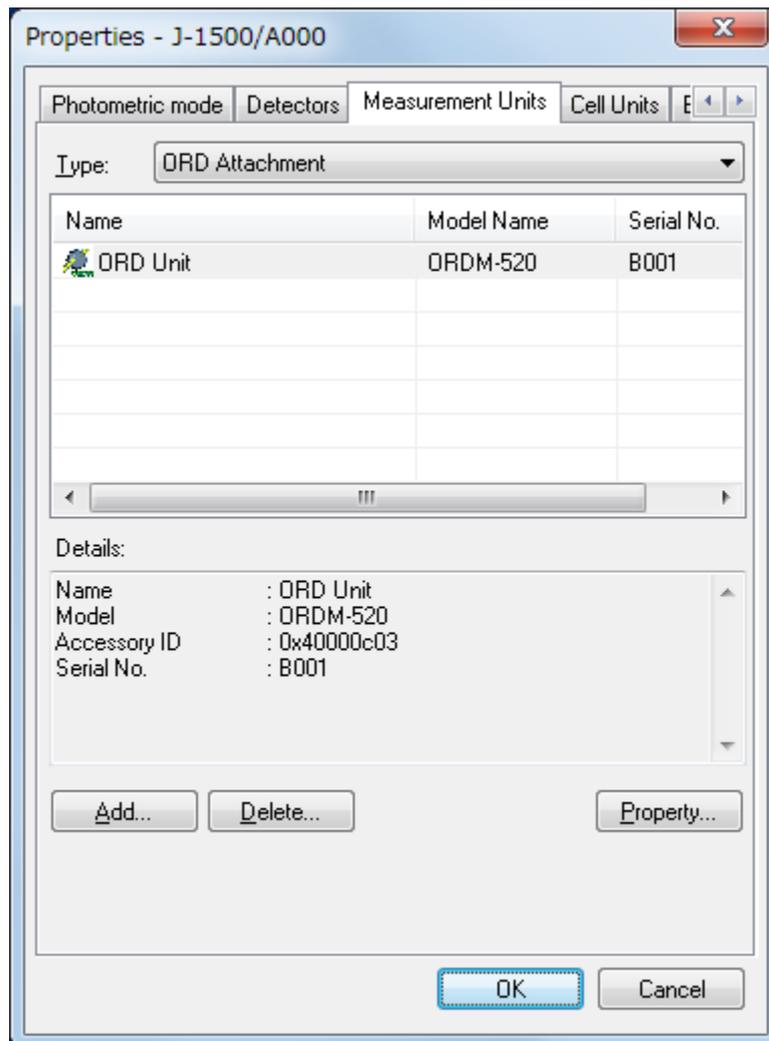

Figure 3.12 [Measurement Units] tab in [Properties] dialog box
- (3) [Name] is automatically entered by selecting the accessory in the [Accessory ID] drop-down list. Type the serial number and a comment as required, and then click the <OK> button to register the accessory and display it in the list of registered accessories (see Fig. 3.12).